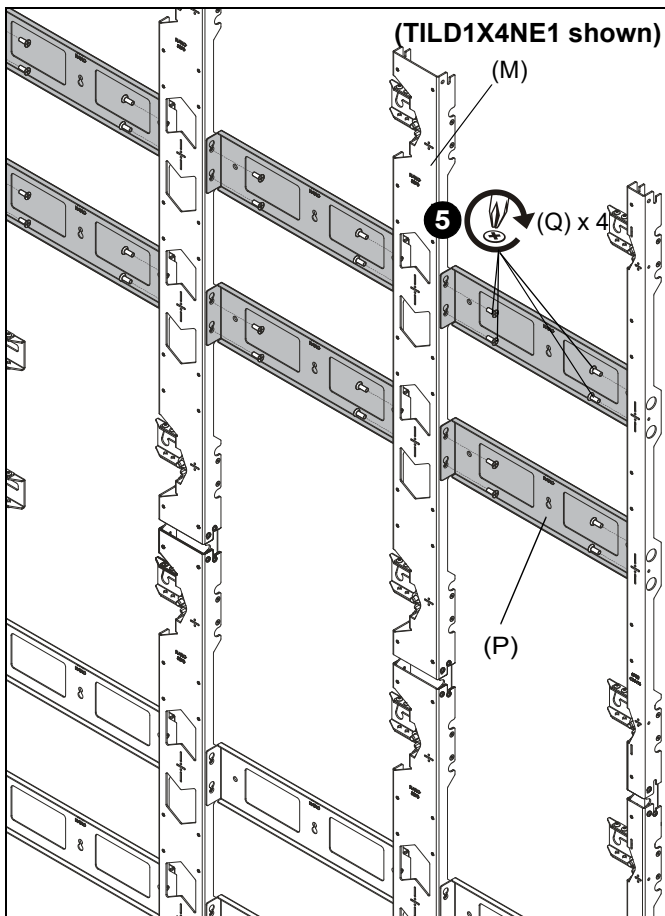

Figure 20
- Position spacer plate (P) between uprights (L, M or N) middle upright (M) between mounting holes. (See Figure 20)
- Use four 1/4-20 x 1/2" Phillips flathead screws (Q) to secure uprights (L, M or N) to each other. (See Figure 20)
NOTE: Drywall screws (R) do NOT need to be used when installing upper rows they only need to be used when installing the bottom row. (See Figure 20)